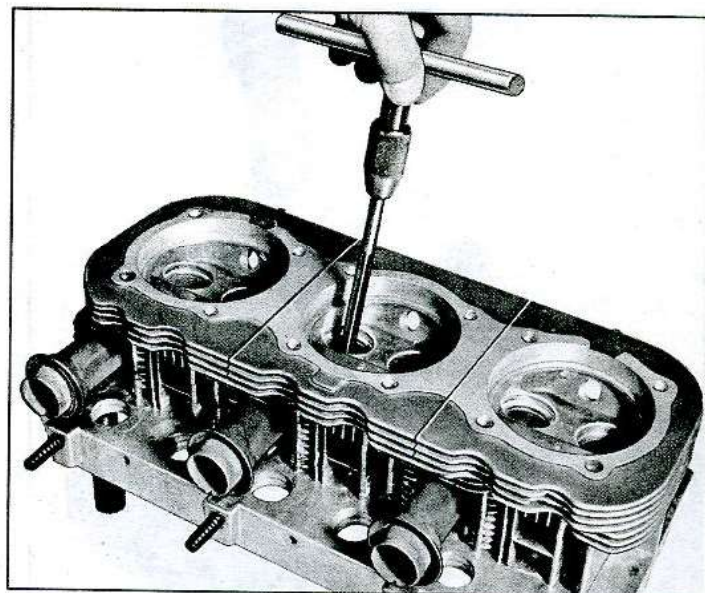

Fig. 87—Reaming Valve Guide
2. Ream bore of valve guide, starting at the combustion chamber side (fig. 87) and flush with cutting oil to avoid scoring. Do not force or withdraw reamer during reaming operation. Reamer should pass completely through bore and be removed at the valve spring side of the cylinder head. Wipe refinished bore to remove cutting oil and chips; inspect bore.